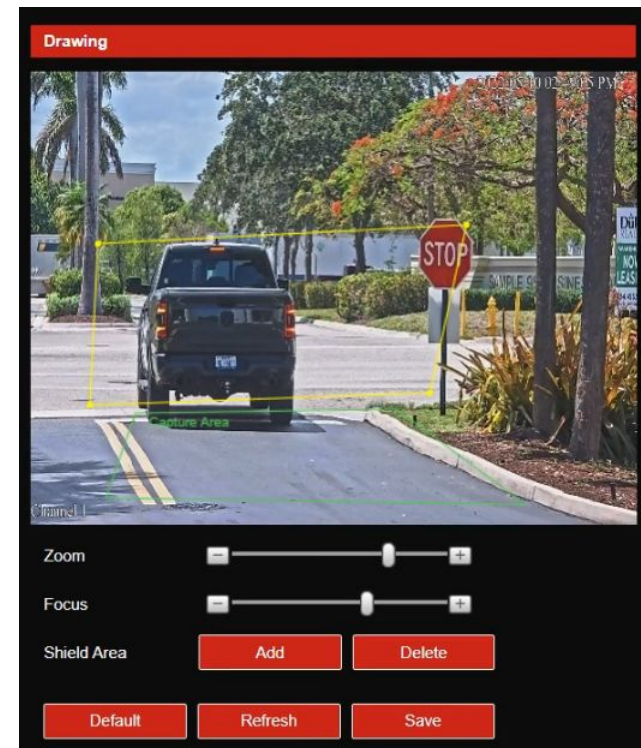

Figure 4-2
**Step 4** For best results, make sure the plates to be captured are in the center of the screen. The vehicle should take up most of the FOV to acquire the highest resolution capture of the License Plate. You can use the zoom and focus controls as needed. See Figure 4-2 for reference in the following steps.